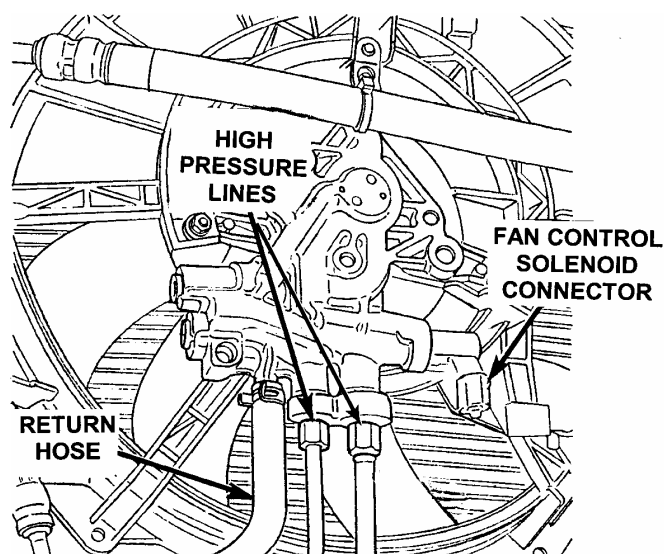

Figure 3
18. Disconnect the cooling fan module electrical connector and hydraulic lines (Figure 3).
79. Connect the cooling fan module electrical connector and hydraulic lines (Figure 3).
91. Install the power steering and cooling fan hydraulic lines (Figure 3). Tighten the return line to 52 ft-lbs (71 N·m), the pump-to-fan line to 275 in-lbs (32 N·m) and the pump-to-steering gear line to 325 in-lbs (37 N·m).